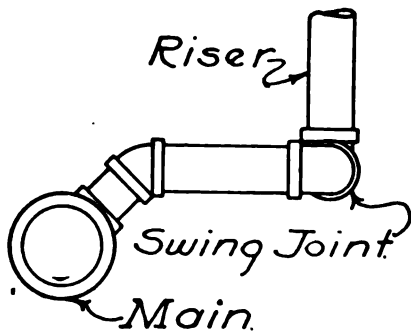
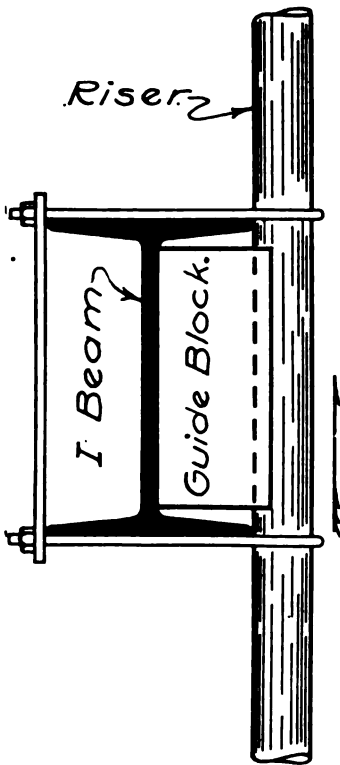

Fig. 41.—A Swing Joint at Bottom of Riser.
Fig. 42.—Method of Anchoring a Riser.
A. The expansion of a riser is either up or down. For an ordinary two or three story job this expansion may be provided for by a swing joint at base of riser. Fig. 41. For a riser of considerable length the expansion may be directed both upward and downward by anchoring the riser near the middle of its length. Fig. 42.